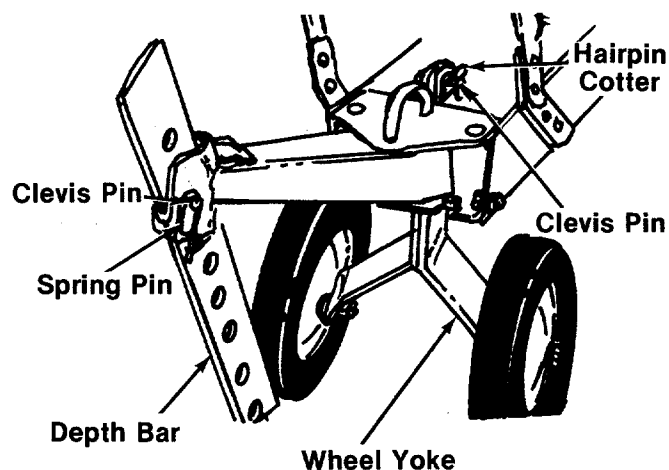
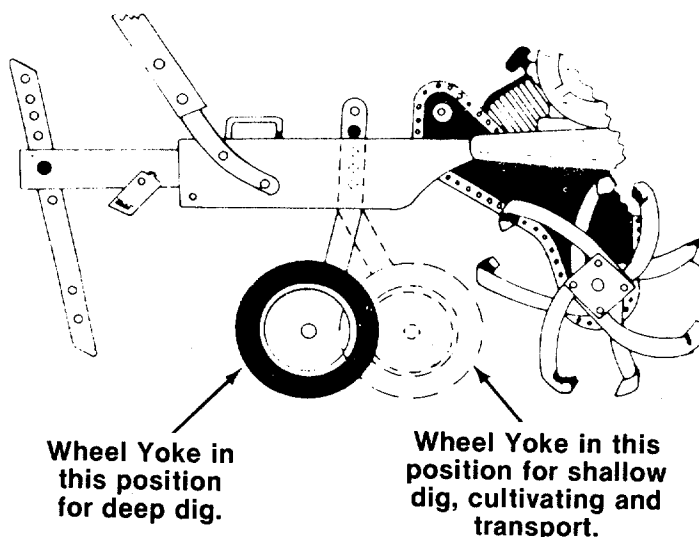

FIGURE 15.
FIGURE 16.
- A. Place shift lever in 1st speed position. Thread ferrule up or down control rod so that ferrule lines up with hole in shift lever. See figure 16. Secure ferrule with flat washer (E) and hairpin cotter (C).
The tiller is shipped with the wheels adjusted such that the unit sits level. During digging as the tines enter the ground and the front of the tiller lowers, the wheels must be raised to level the unit. This is essential for proper engine operation. This adjustment is made by removing the clevis pin and hairpin cotter from wheel yoke, raising the wheels to the desired height, and replacing the clevis pin and hairpin cotter. See figure 15.
1. **Wheel Yoke Adjustment:** Place wheel yoke so that the wheels are forward (nearest point between wheels and tines) for shallow tilling, cultivating and transport. This will increase the forward speed. See figure 15. Turn yoke around (farthest point between wheels and tines) for deep tilling. Forward speed will decrease. See figure 16.